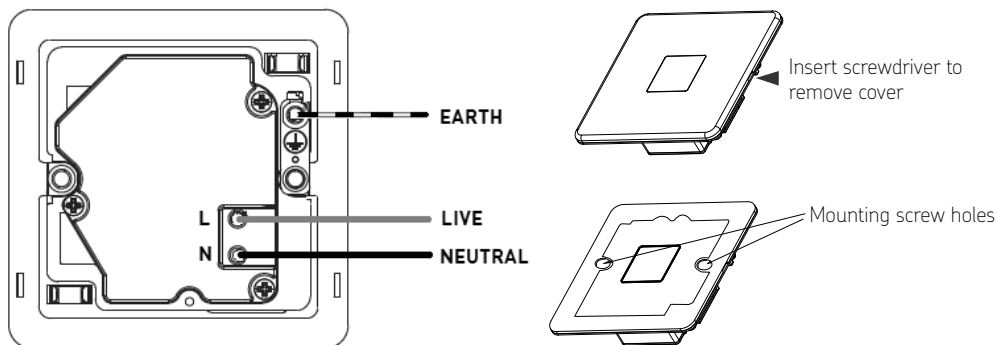

Fig. 1
- Remove the front plate by placing a medium size flat-head screwdriver in the notch at the side and lever off gently (see Fig. 1)